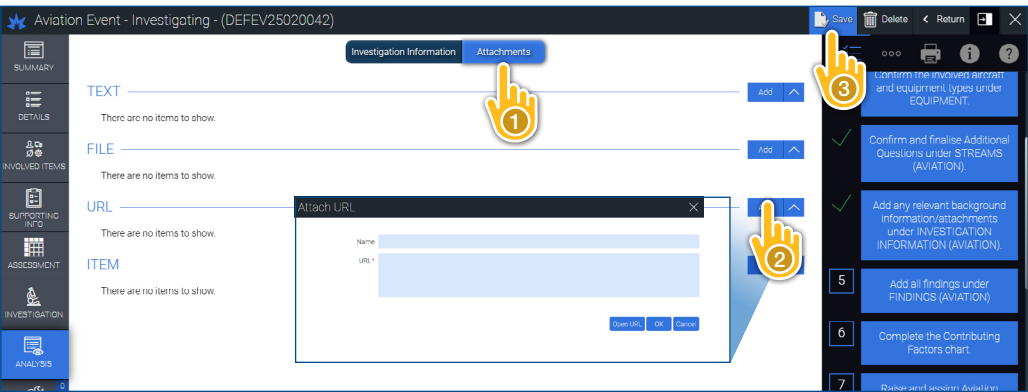

Figure 44: Investigation Information – Attach a URL
- add the Objective link to the report as a URL via the Attachments tab (**Figure 44**)